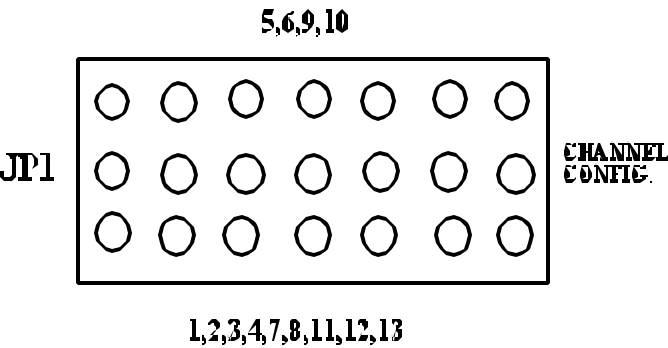

Figure 1. ASM Card Jumper Block
6. On both the operational and spare ASC, set the backup channel configuration using the seven jumpers on JP1. Using all seven jumpers, move the jumpers to the side of the block that lists the number of output channels for your site configuration, the center row of pins being common. (Example: Using **Figure 1** as a reference, if your site configuration had 5, 6, 9, or 10 channels, each jumper